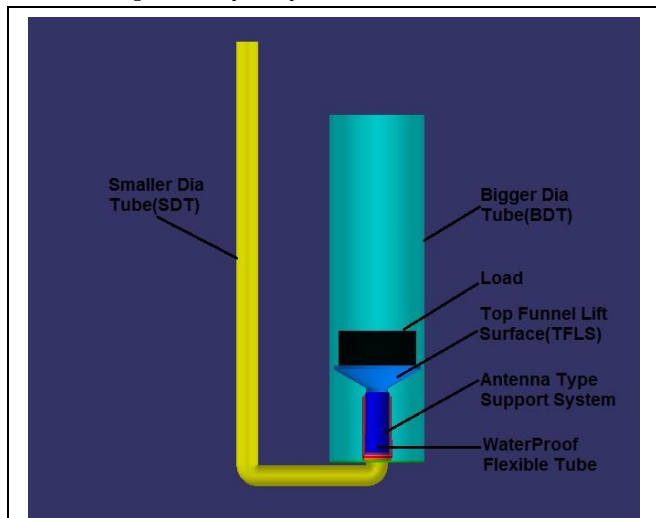

Fig. 3
Figure 3: As you can see Figure3 is Front view of TeJHydroLift. Just as conventional style lift it has Big Dia Tube (BDT) and Small Dia Tube (SDT). But what happens at BDT is what makes it different. Inside BDT it has Top Funnel Lift Surface (TFLS). Below it is Antenna Support. This Antenna Support can extend or collapse just like the Antennas of old radios. Inside of Antenna Support houses a waterproof Flexible Tube (WPFT). The Antenna Support is there to support WPFT so that tube expands longitudinally and should not buckle under load laterally. Under high pressure it may be possible that we may not need antenna supports at all but we have to verify it to be true. For present paper we will use supports. Fluid from smaller Dia tube will be pushed to WPFT to move TFLS up to lift heavy loads shown in black color.
Step 1: Figure 3. Here you can see the configuration where TFLS is at the lowest position. The Antenna support is in full collapse position. The load is lying on TFLS at its lowest position.